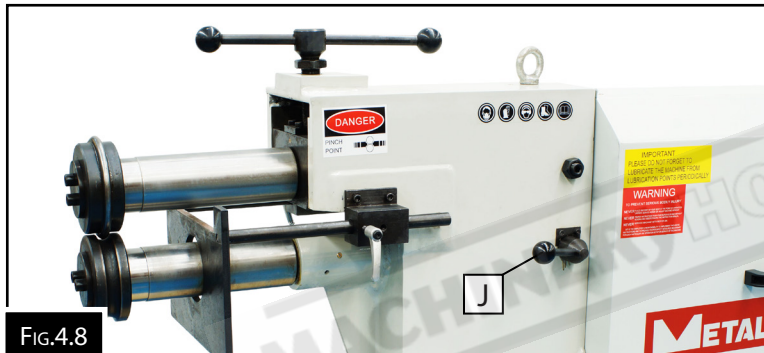

FIG.4.8
2. Adjust the lever (J in Fig. 4.8), to move the lower shaft in or out until the rolls are correctly aligned.